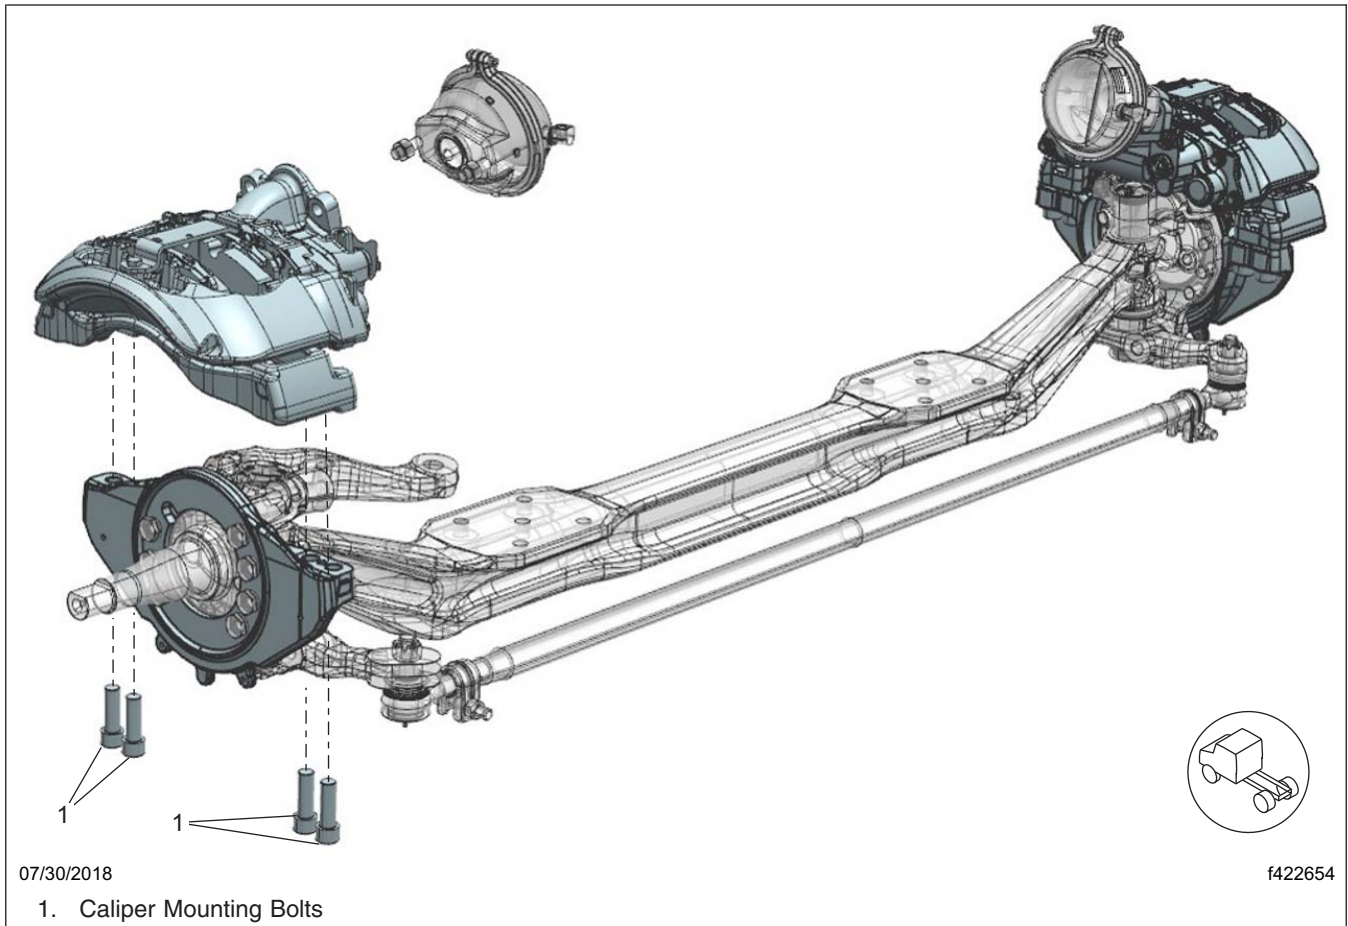
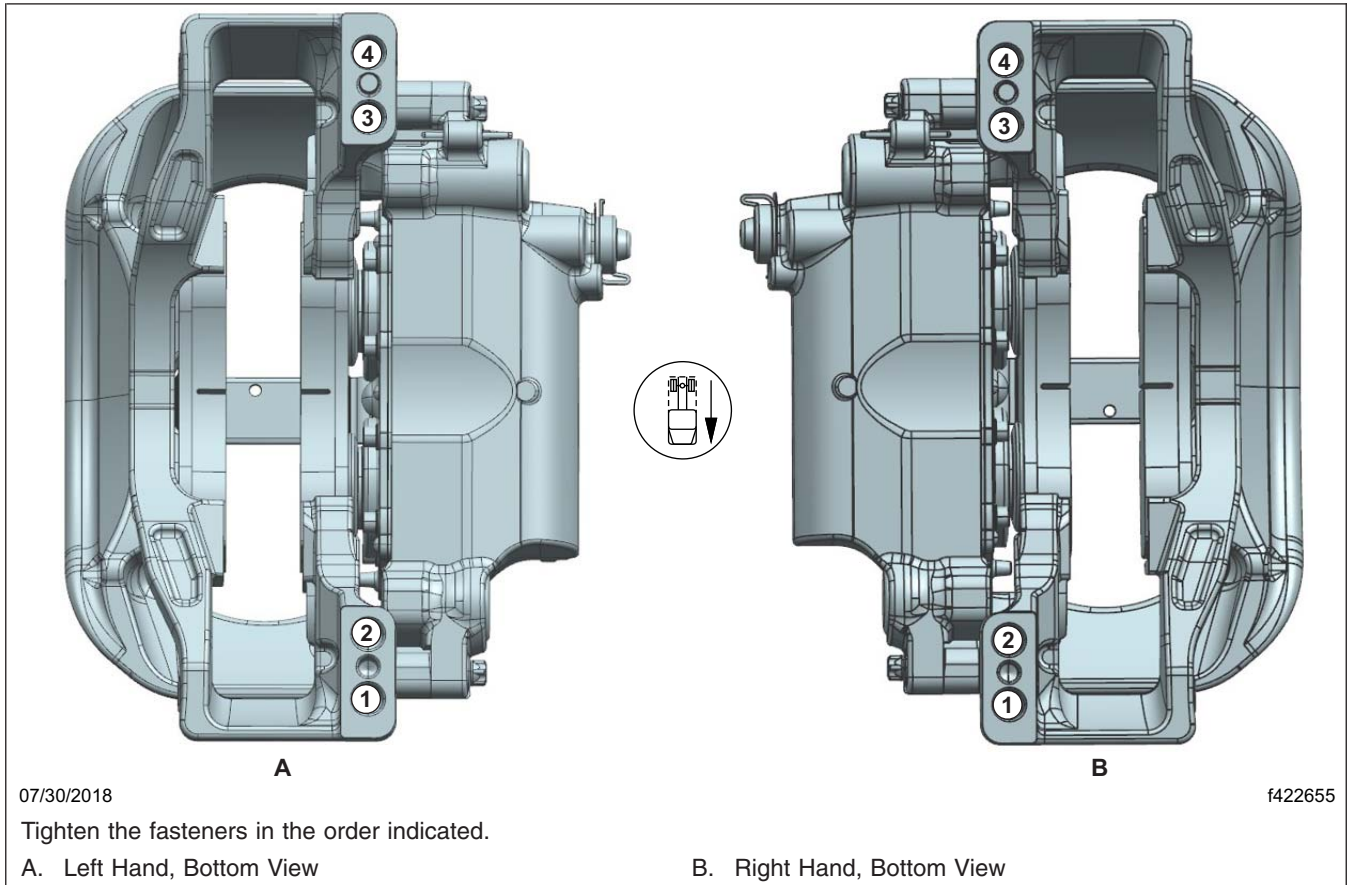

Fig. 7, Meritor Radial Mounted Caliper
Fig. 8, Tightening Pattern, Meritor Caliper
9. Align each caliper/carrier assembly with the rotor by pushing the fixed pin side of the caliper against the shelf on the torque plate, then install the caliper/carrier assembly using new caliper mounting bolts. See Fig. 7 and Fig. 8.
10. Tighten the carrier mounting bolts in two steps, using the pattern shown in Fig. 8.